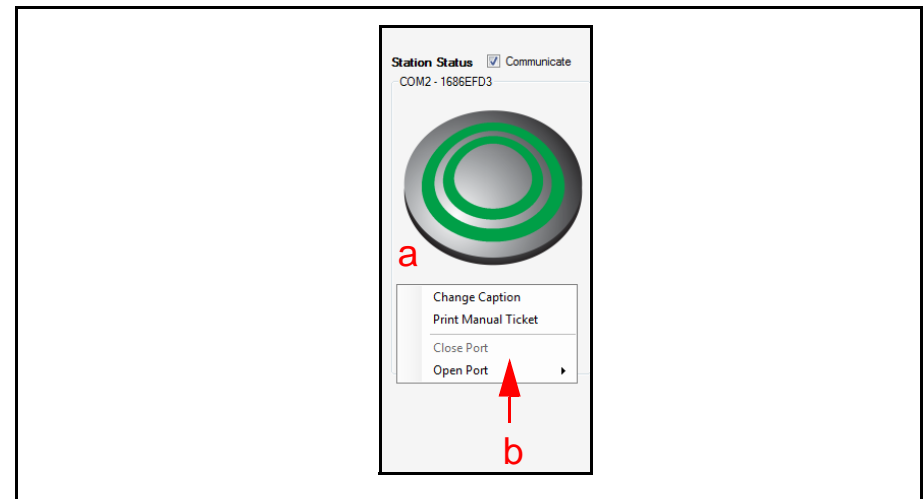

Figure 39 Changing the COM Port Status
1. Right-click below the Station Status icon (Figure 39 a).
2. To close a COM Port from the pop-up menu, select 'Close Port' (Figure 39 b). Then select the COM Port to be closed.
3. To open a COM Port from the pop-up menu, select 'Open Port' (Figure 39 b). Then select the COM Port to be opened.